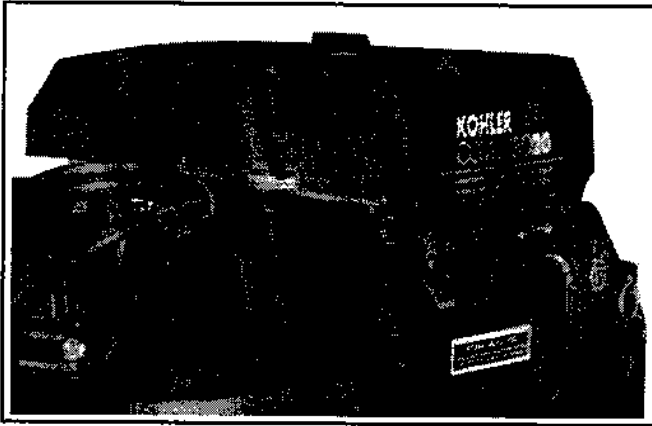

Figure 5. Optional Engine Mounted Throttle and Choke Controls.
1. Place the throttle control *in* the *idle* position. Place the choke control into the “*on*” position. See Figure 5. On dual-fueled engines, place the three-position fuel control switch in the *gasoline* position and place the throttle control between half and full throttle (engine *must* be started and run on gasoline for 1 minute to heat up oxygen sensor).